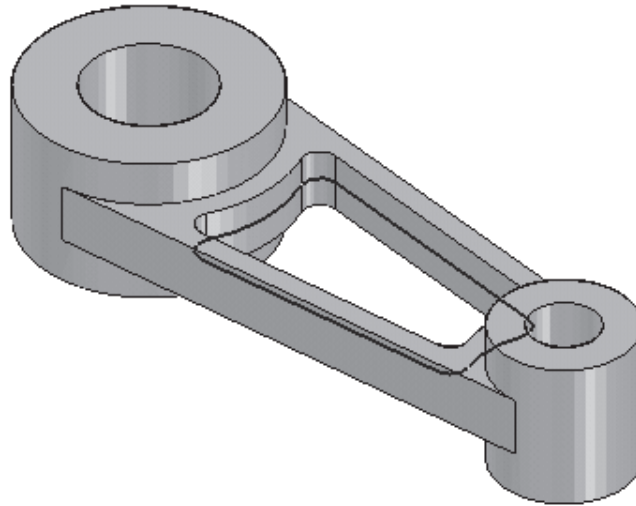

Figure 5-72 Model after creating the cutout
- Create a cutout in the second feature using the sketch, refer to Figure 5-72.
5. Exit the **Cutout** tool. The model, after creating the cutout, is shown in Figure 5-72. This figure also shows the sketch because its display is not turned off.